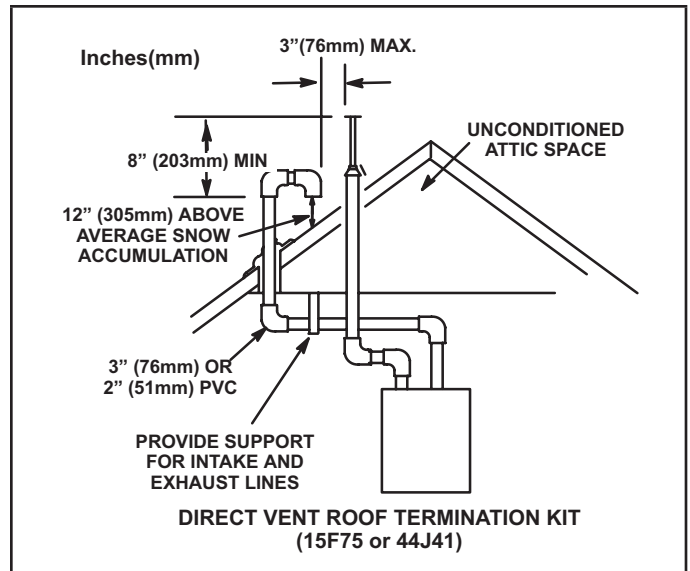
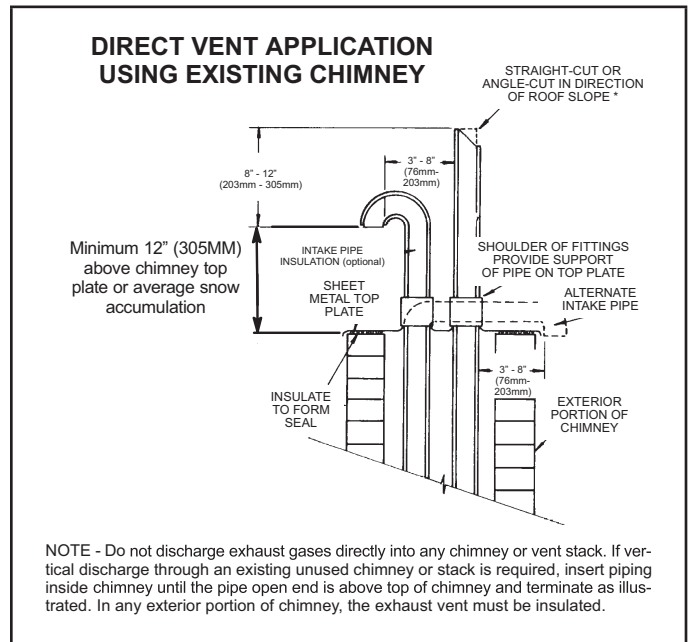

Figure 33
Figure 40
Intake and exhaust pipes may be routed either horizontally through an outside wall or vertically through the roof. In attic or closet installations, vertical termination through the roof is preferred. Figure 33 through Figure 40 show typical terminations.
- 3 - On roof terminations, the intake piping should terminate straight down using two 90° elbows (See Figure 33).